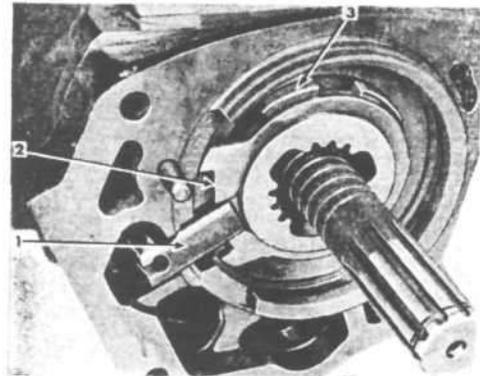

FIG. 204—SOLENOID BALK RING
a. The sun gear balk ring, Fig. 204, must have from 3½ to 5½ lbs. [1,58 a 2,49 kg.] running friction (measured on a 1⅝" [16,8 mm.] radius) when mounted on the sun gear plate hub. Replace any parts necessary to obtain this friction. This friction acts as a brake to allow the solenoid panel to engage without gear noise. In the absence of friction a "clunking" noise will occur when the overdrive engages. Eventually the sun gear slot edges may become burred and prevent engagement of the pawl.
b. Install the balk ring as shown in Fig. 204. Place the wider flat edge of the ring (Fig. 204, No. 2) toward the top of the transmission which places the inner beveled edge toward the gear plate (3).
c. Install the sun gear pawl (Fig. 204, No. 1) with its grooved edge toward the top of the transmission.